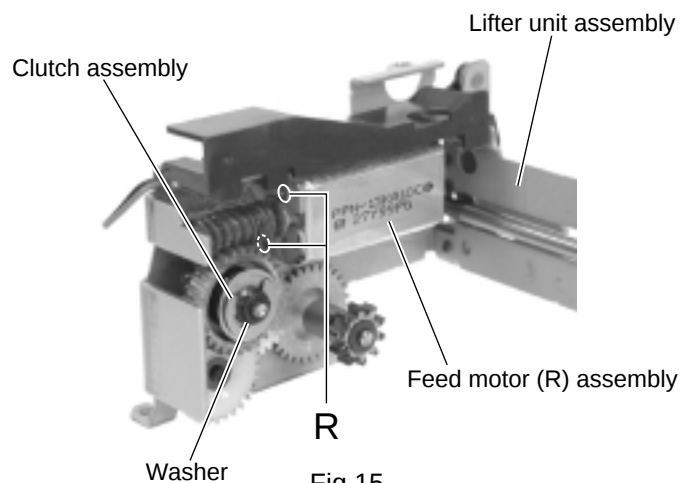

Fig.15
■ Removing the feed motor (R) (See Fig.15)
2. Remove the two screws **R** attaching the feed motor (R).